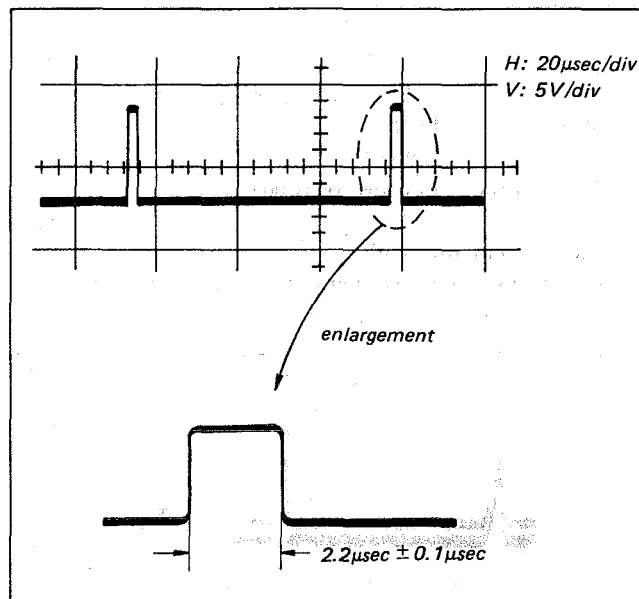

Fig. 5-27. Pilot burst flag adjustment
- i) Adjust to $2.2 \mu\text{sec} \pm 0.1 \mu\text{sec}$ with RV009. (See Fig. 5-27.)